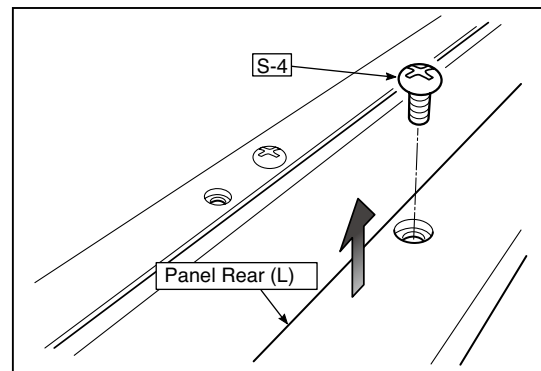

Fig.25
- 2.Remove the "S-4" screws shown in the figure 25 and then remove the Panel Rear (L).